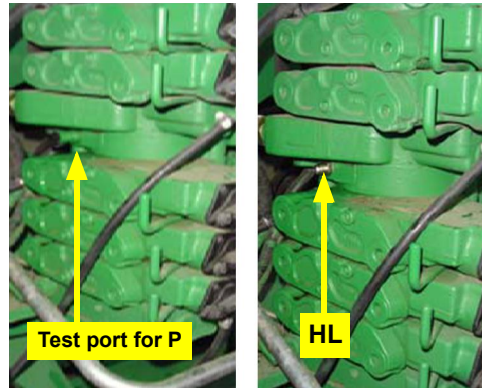

Figure 6b: Test port for pressure (left photo). Test port with fitting (right photo)
- b. If your tractor is equipped with the high-flow hydraulic option (5-remote valve stack) do not use the **P** test port on the top plate of the tractor hydraulic remote valves. Instead, install adapter fitting **HL** in the test port on the left side of the valve stack between the bottom three and top two valves (left and right photos in Figure 6b). This will supply pressure to the hydraulic steering block.